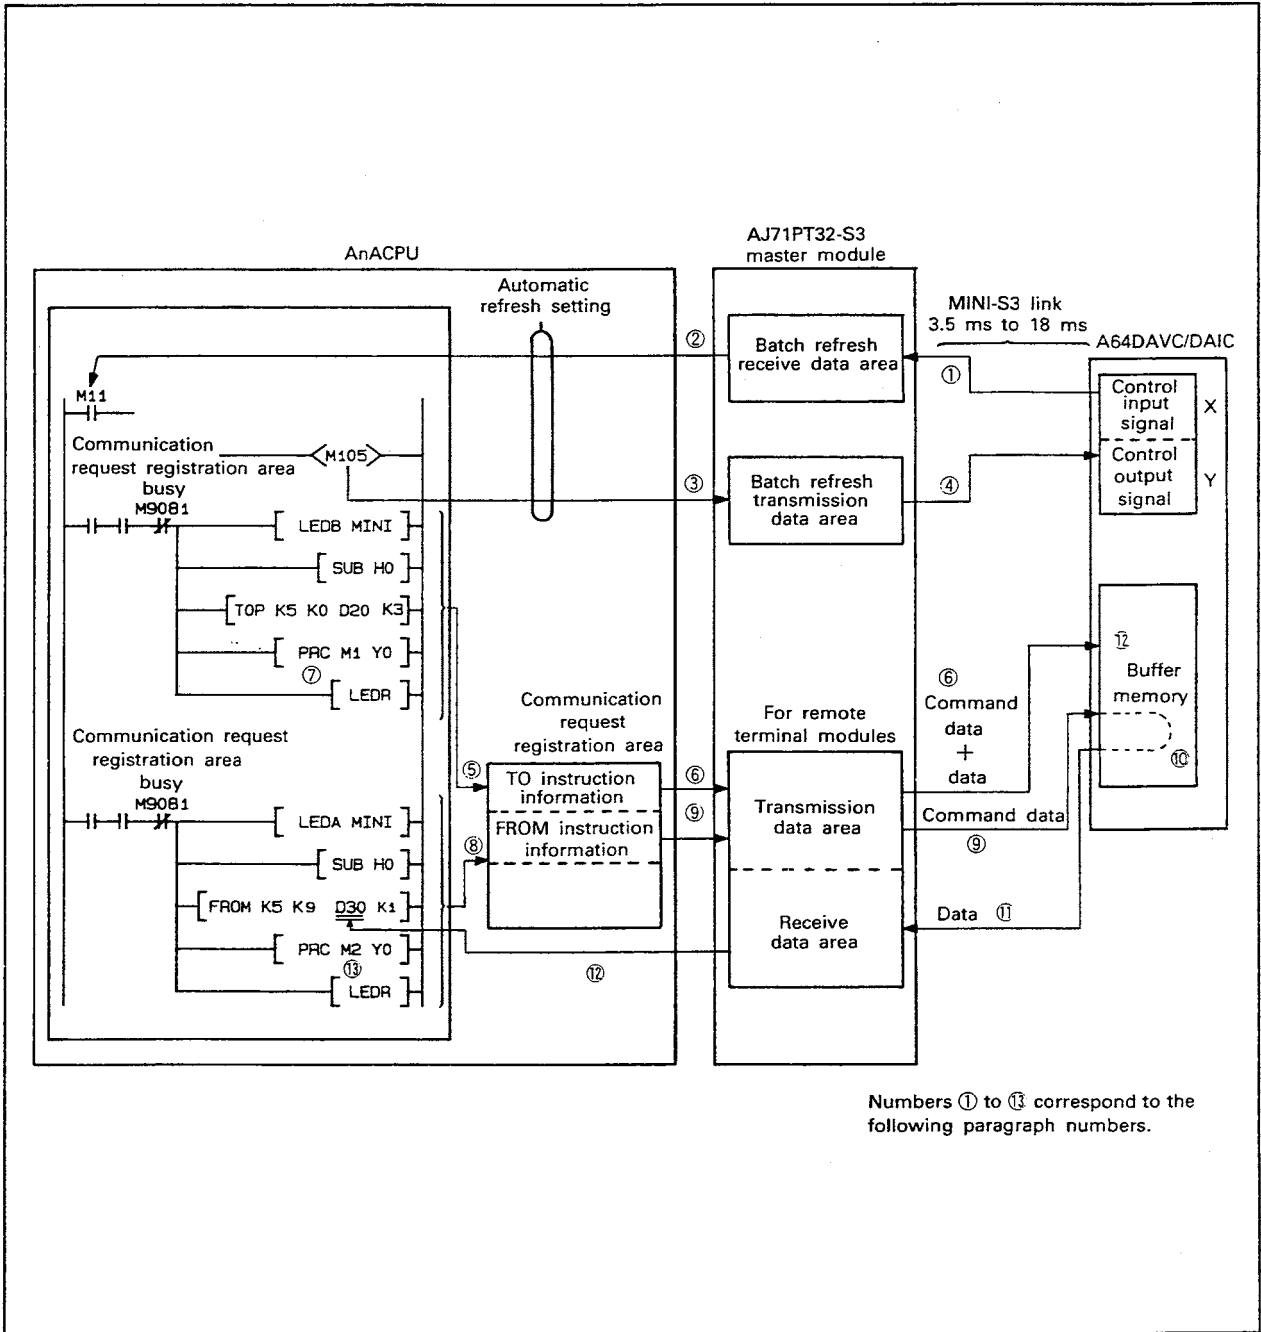

Fig. 4.1 Communication Procedures
- ⑦ When the transmission completion response of the A64DAVC/DAIC is received by the AnACPU via the receive data areas in the master module, the communication completion flag (device M1 in Fig. 4.1) designated by the PRC instruction turns ON for 1 scan. When communication is completed, the TO instruction information stored in the communication request registration area is cleared.
- (3) Reading data from the A64DAVC/DAIC buffer memory
- ⑧ By execution of the "LEDA MINI to FROM" instruction (MINI-S3 dedicated instructions) of the sequence program, information such as master module I/O addresses, A64DAVC/DAIC station setting, buffer memory addresses and read instruction commands is stored in the communication request registration areas.
- ⑨ By execution of the PRC instruction, the FROM instruction information stored in the communication request registration area is written to the remote terminal module transmit data areas in the master module. When the information write is completed, the data is transmitted to the A64DAVC/DAIC through the MINI-S3 link. This transmission is performed several times. (one word data per one time)
- ⑩ When the A64DAVC/DAIC has received the FROM instruction information, it sends data stored in the buffer memory back to the master module according to the address data of the information. (one word data per one time)
- ⑪ Data received from the A64DAVC/DAIC is stored in the receive areas of remote terminal numbers corresponding to station setting of the A64DAVC/DAIC.
- ⑫ Data stored in the remote terminal module receive data areas is stored in the word devices designated by the FROM instruction.
- ⑬ After storing the data received from the A64DAVC/DAIC buffer memory in the designated devices, the AnACPU turns ON the communication completion flag (device M2 in Fig. 4.1) designated by the PRC instruction for 1 scan. When communication is completed, the FROM instruction information stored in the communication request registration area is cleared.